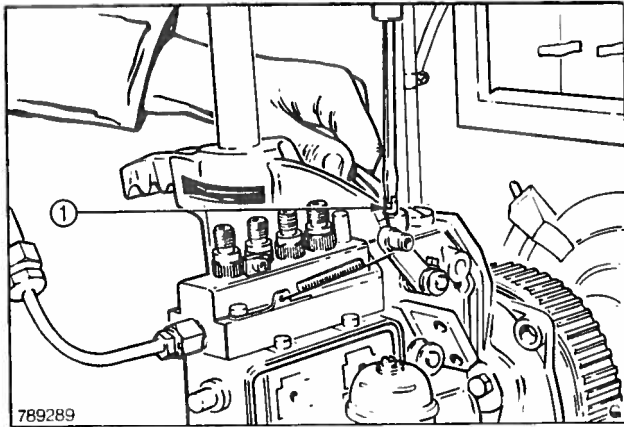

Fig. 30 Adjusting the maximum fuel stop screw
4. Adjust the maximum fuel stop screw, Fig. 30, so that the No. 4 element gives the specified fuel delivery (see Specifications) for 200 shots at 1000 rpm, with the governor control lever set in the maximum speed position.